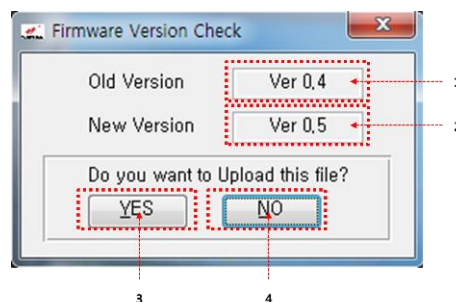

Figure 7-2: Firmware Version Check
5. Click **Load** in the **Specify INI File to Open** browser window, Figure 7-2. The Firmware Version Check dialog window displays, Figure 7-2.